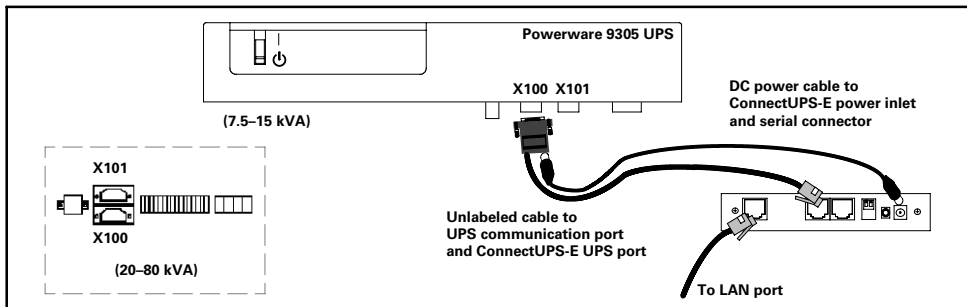

Figure 3. Installing the ConnectUPS-E with a Powerware 9305 UPS
3. **If the X100 port is available**, use the supplied, unlabeled serial cable to connect the UPS port on the ConnectUPS-E to the female, 9-pin, RS-232 port on the UPS (see Figure 3).